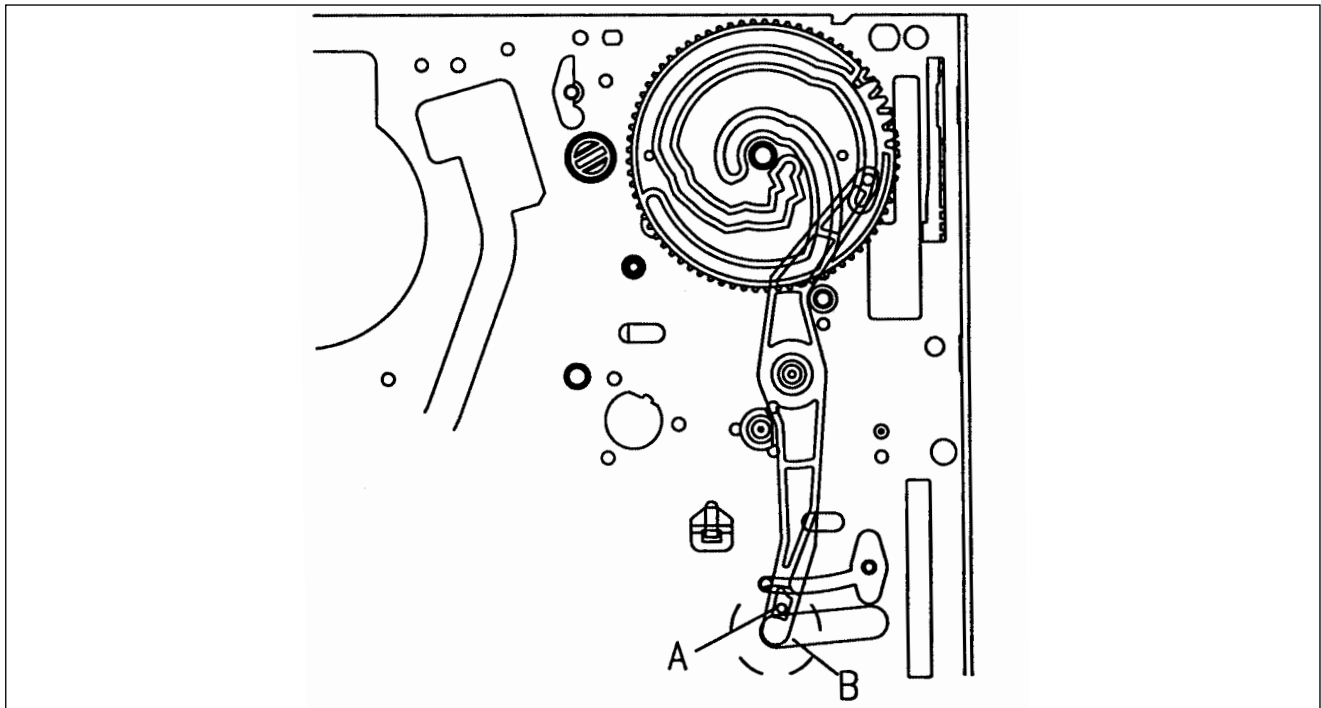

Fig. 2- Mechanical Checks/relay Lever and Cam Gear Alinment
2. Make sure that the part of the relay lever "A" which is assembled with CONNECT PLATE is fully rotated up to the left and of the hole "B" (Fig. 2)